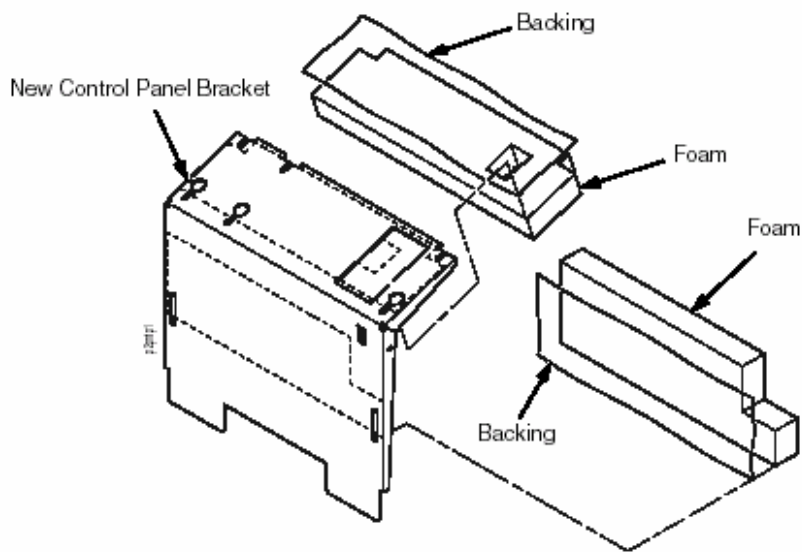

Figure 1. Installing Foam on the New Control Panel Bracket
4. Examine the control panel bracket on the printer: If it is the same as the bracket shown in Figure 1, continue at step 1 on page 2; otherwise, continue with step 5 below.
1. Peel the backing off the foam and carefully apply the foam pieces to the back of the new control panel bracket, as shown in Figure 1.